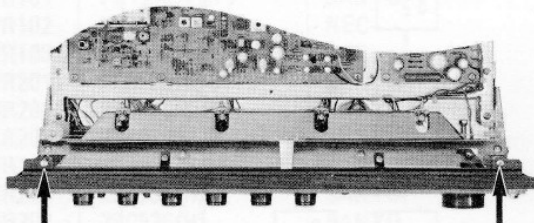

Figure B1
- d) Remove knobs and pull off panel. (Figure B1, B2)